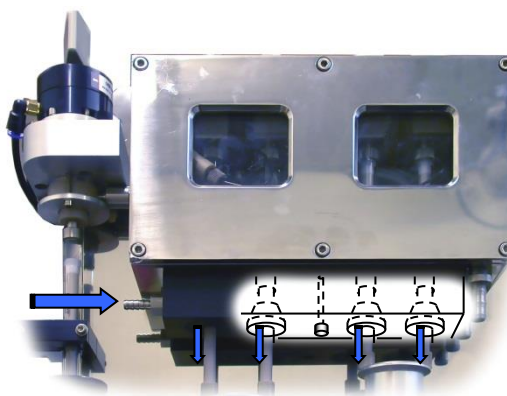

Figure 2-33: position of the gas tube connector of the anaerobic accessory
1) The purge manifold should be fitted with the drive syringes empty and the drive rams removed. Push it up so that it rests against the underside of the thermostat bath and encloses the drive syringe plungers with the gas tube connector pointing to the left as in Figure 2-33. Tighten the single screw in the middle to hold it in place.